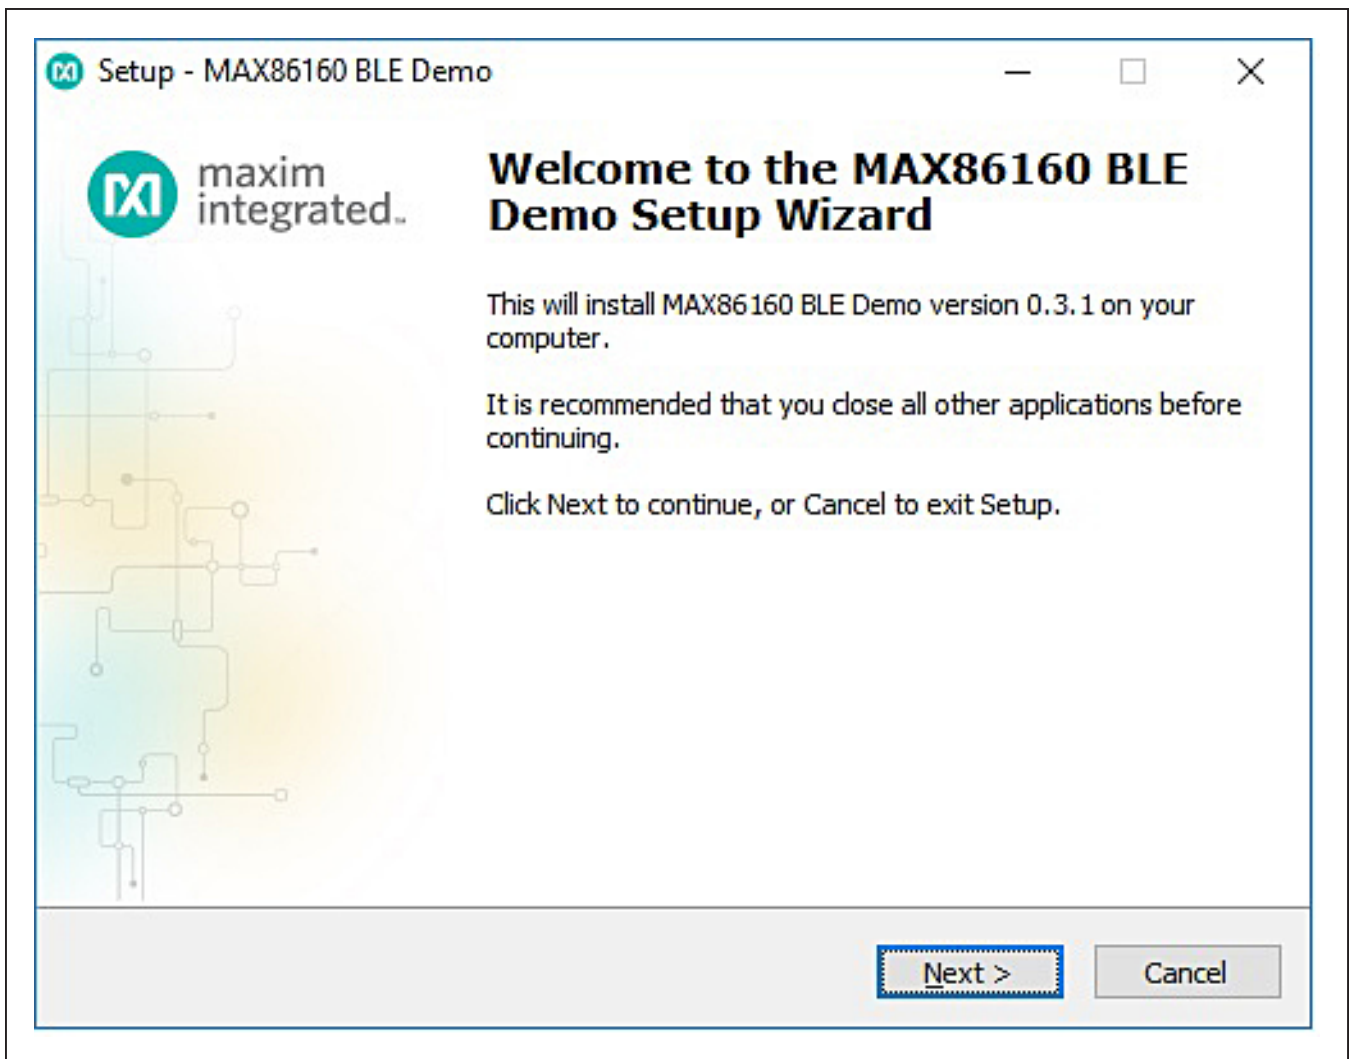
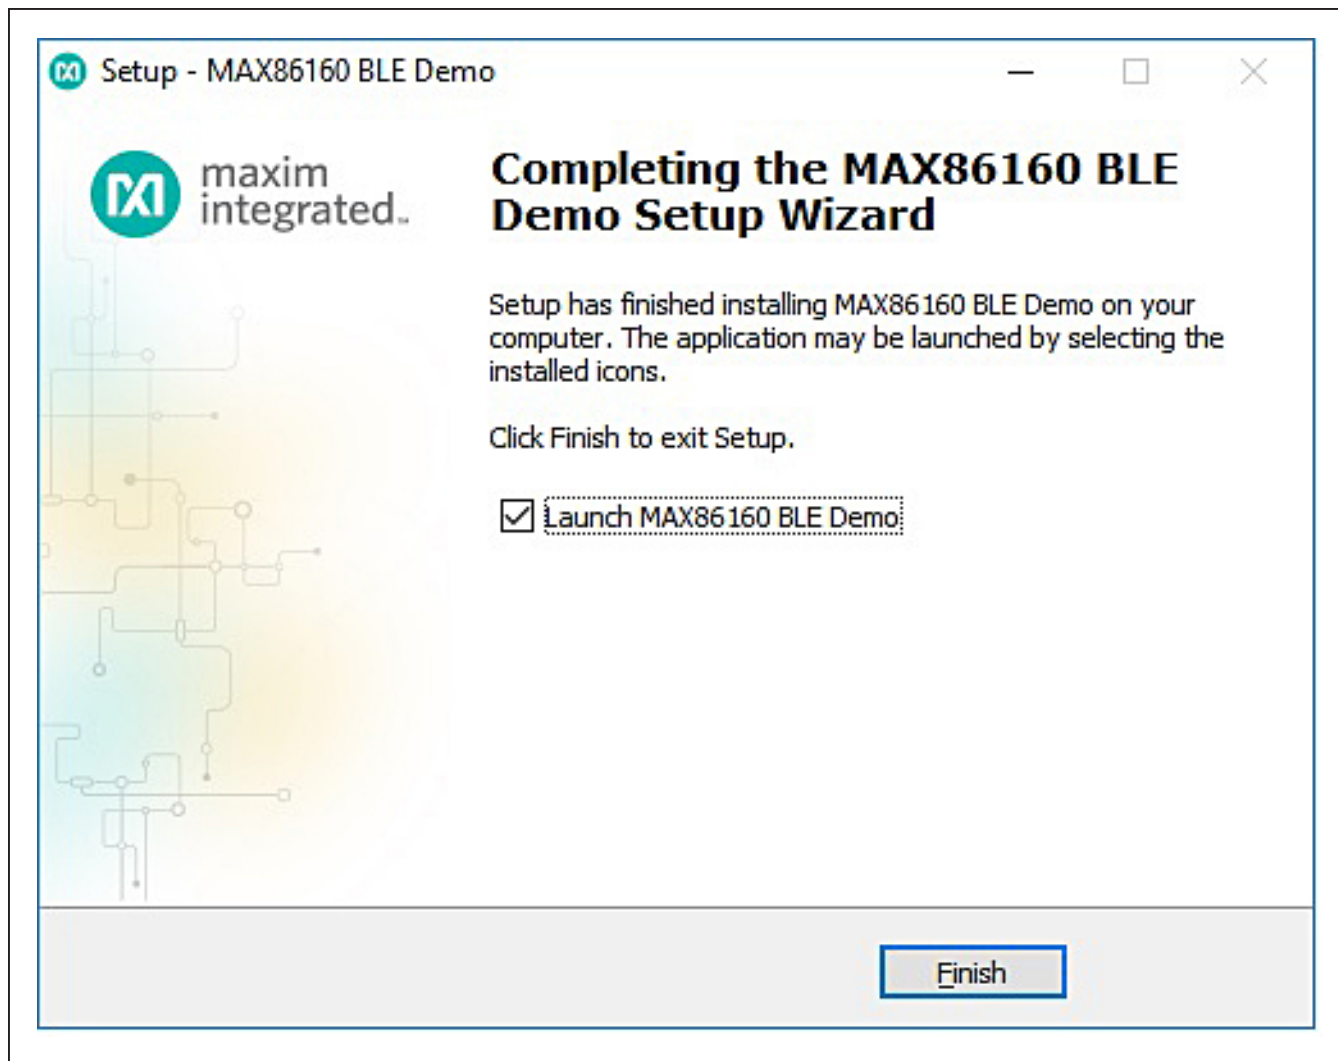

Figure 1. Setup MAX86160 EVSYS GUI Software Step 1
Figure 7. Setup MAX86160 EVSYS GUI Software Step 7
- 3) Open up MAX86160GUISetupVxxx.exe and follow the instructions from the pop-up windows, as shown in Figure 1 to Figure 7.